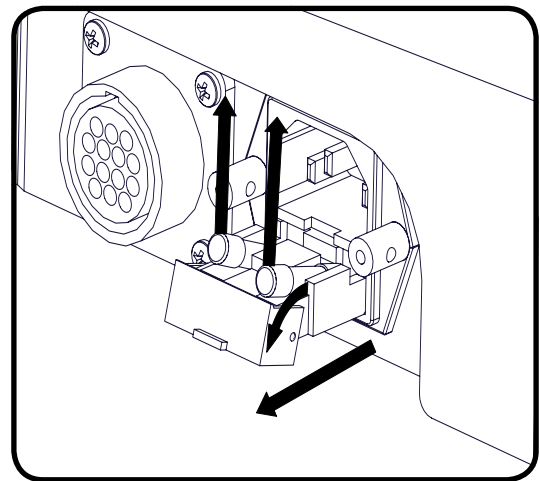

Figure 1
4. Insert new fuse(s) with same type of fuse removed in step 3. (See figure 1 below) See "SPECIFICATIONS" on page 23 for fuse type.